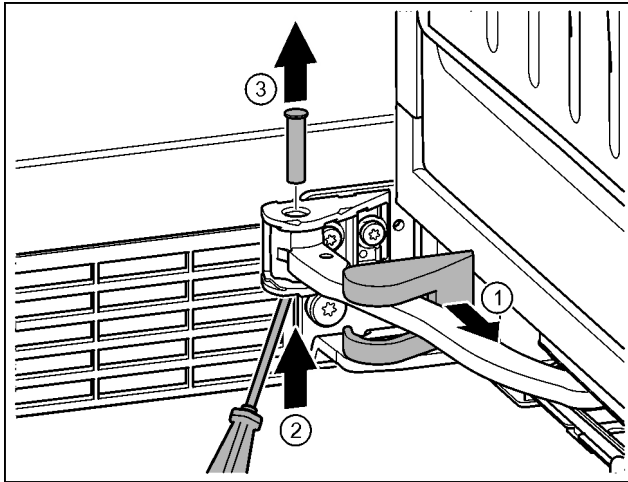

Fig. 17
- Remove the bearing bracket cover and push it along the hinge. Fig. 17 (1)
- Lift the bolt with a finger or screwdriver from below. Fig. 17 (2)
- Insert the screwdriver under the bolt head and remove. Fig. 17 (3)